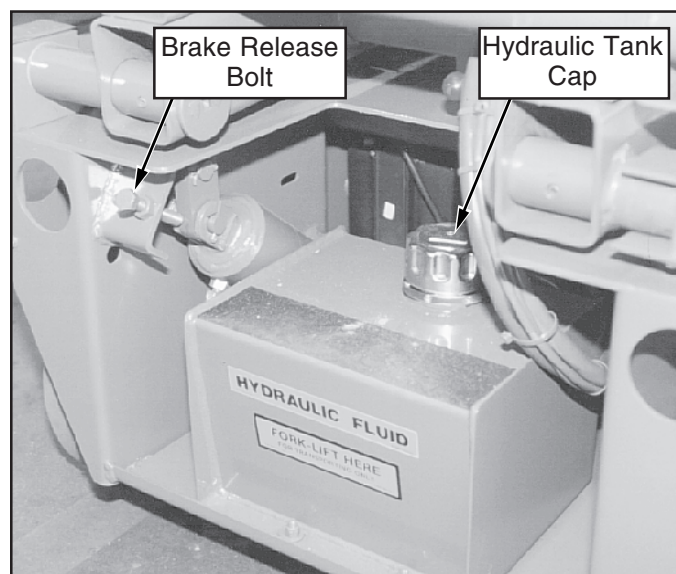

Figure 4: Chassis Rear View
5. Check that A.C. extension cord has been disconnected from the plug in the right Chassis Module (Figure 4) and the module door secured.
## Parking Brake Release (Figure 4)